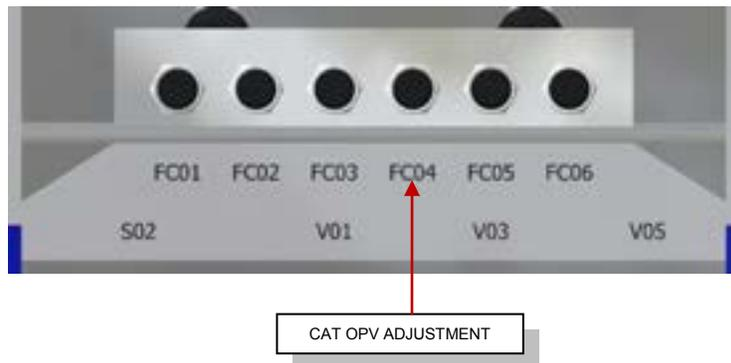

Fig. 17
**Catalyst Over Pressure Adjustment:** (see figure 17)